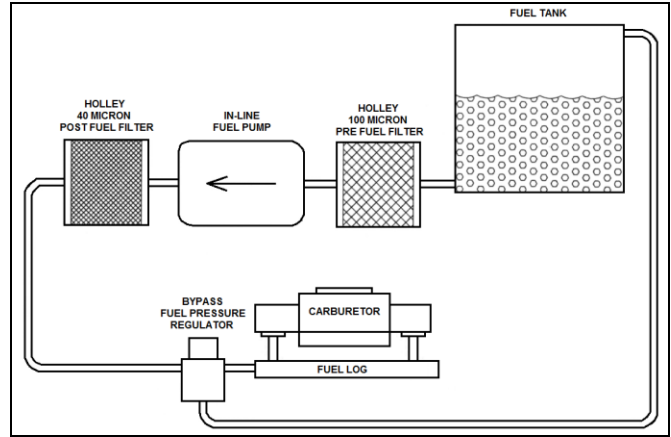

Figure 2
3. The 12-803BP bypass regulator has one bypass or return port. This port (labeled "RET") must be connected to the fuel tank with a fuel line the same size as the supply line (3/8" I.D. is recommended). See Figures 2 & 3.
5. Connect the other line per Figure 2 or 3.